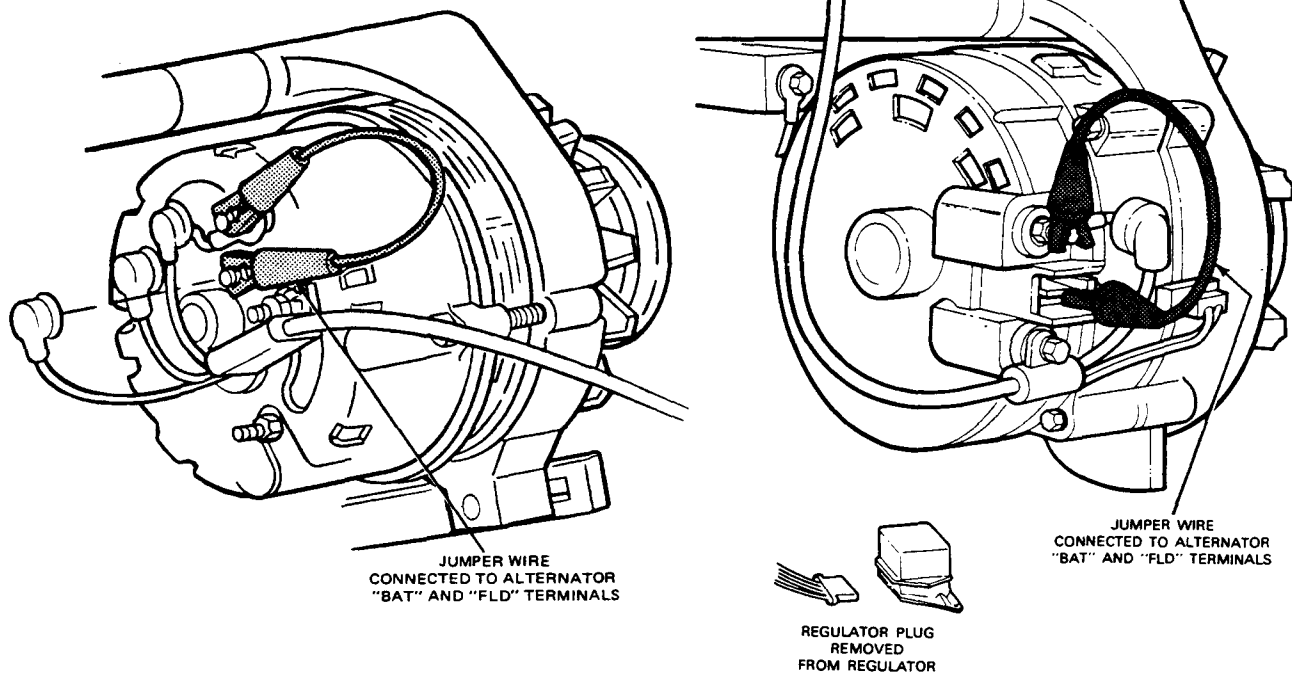

FIG. 13 Jumper Wire Connections
- If the Voltmeter Test Procedure still indicates a problem (under voltage), remove the jumper wire from the regulator plug and leave the plug disconnected from the regulator. Then, connect a jumper wire to the FLD and BAT terminals on the alternator (Fig. 13).